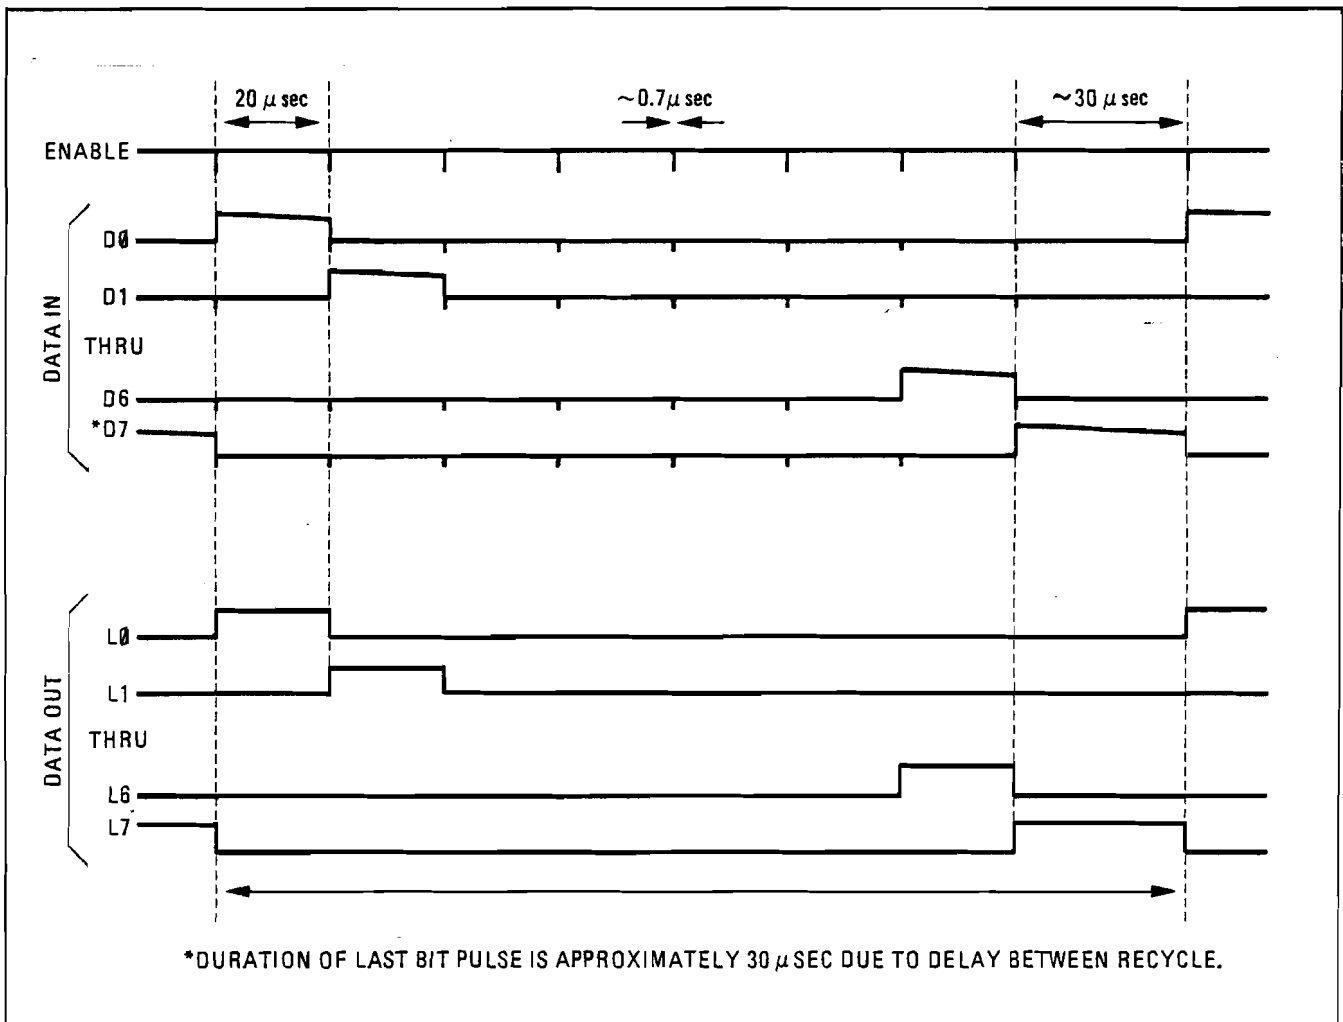

Figure 8-2. Hex Data Rotation Write – Bit Pattern
- HEX DATA ROTATION WRITE, **M4**, strobes a '1' (high state) through a column of zeroes (low states) to the addressed device. In effect, Hex Data Rotation Write is a rapid WRITE mode, exercising the addressed device in real time. The microprocessor inputs the data continuously, without servicing interrupts from the rest of the instrument. Latch enable lines, inputs, and outputs can be checked in this mode. Figure 8-2 illustrates the appropriate waveforms.